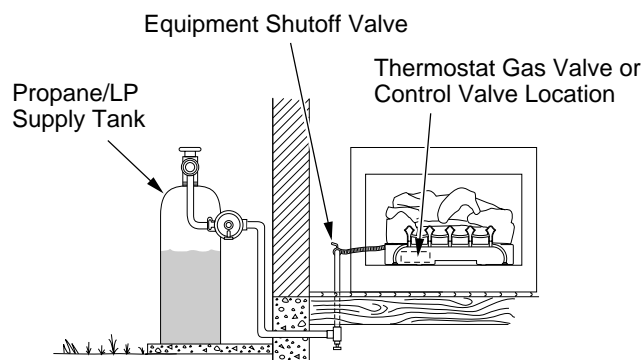

Figure 18 - Checking Gas Joints (Propane/LP Gas Only)
3. Check all joints from gas meter for natural or propane/LP supply to equipment shutoff valve (see Figure 18 or 19). Apply a noncorrosive leak detection fluid to all joints. Bubbles forming show a leak.
4. Check all joints from equipment shutoff valve to thermostat gas valve (Thermostat-Controlled Models) or control valve (Remote-Ready Models) (see Figure 18 or 19). Apply a noncorrosive leak detection fluid to all joints. Bubbles forming show a leak.